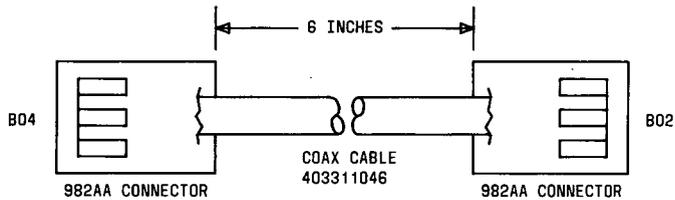

Figure 43. ED-1E434, Group 92 Cable
Install the ED-1E434, Group 92 cables (Figure 43) from **B04** on module control (00) and (01) to connector **B02** on the same module control carrier for each remote module as shown in Table X. The connection for module control (01) is for duplicated systems only.